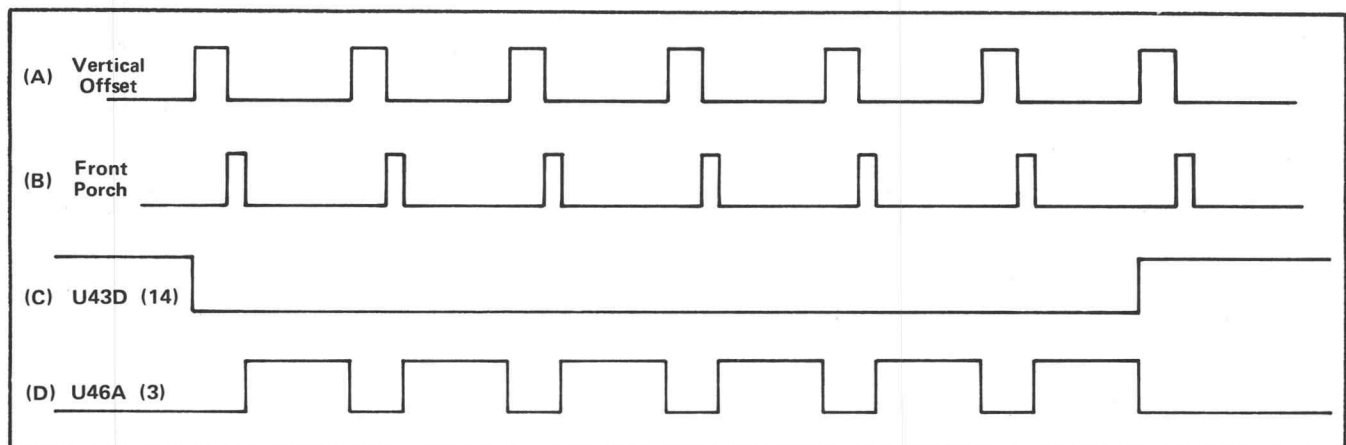

Fig. 3-7. Waveforms illustrating the inputs and output of U46A.
The output from U43D (14) is coupled to U46A (14). L46 and R46 are a pulse stretching network which delays the fall of the pulse. The other two inputs to U46A are from the vertical offset multi and the front porch multi. L93 and R93 delay the fall of the pulse from the vertical offset multi. Fig. 3-7 A, B, and C illustrates the three inputs to U46A and Fig. 3-7 D illustrates the output. The output,